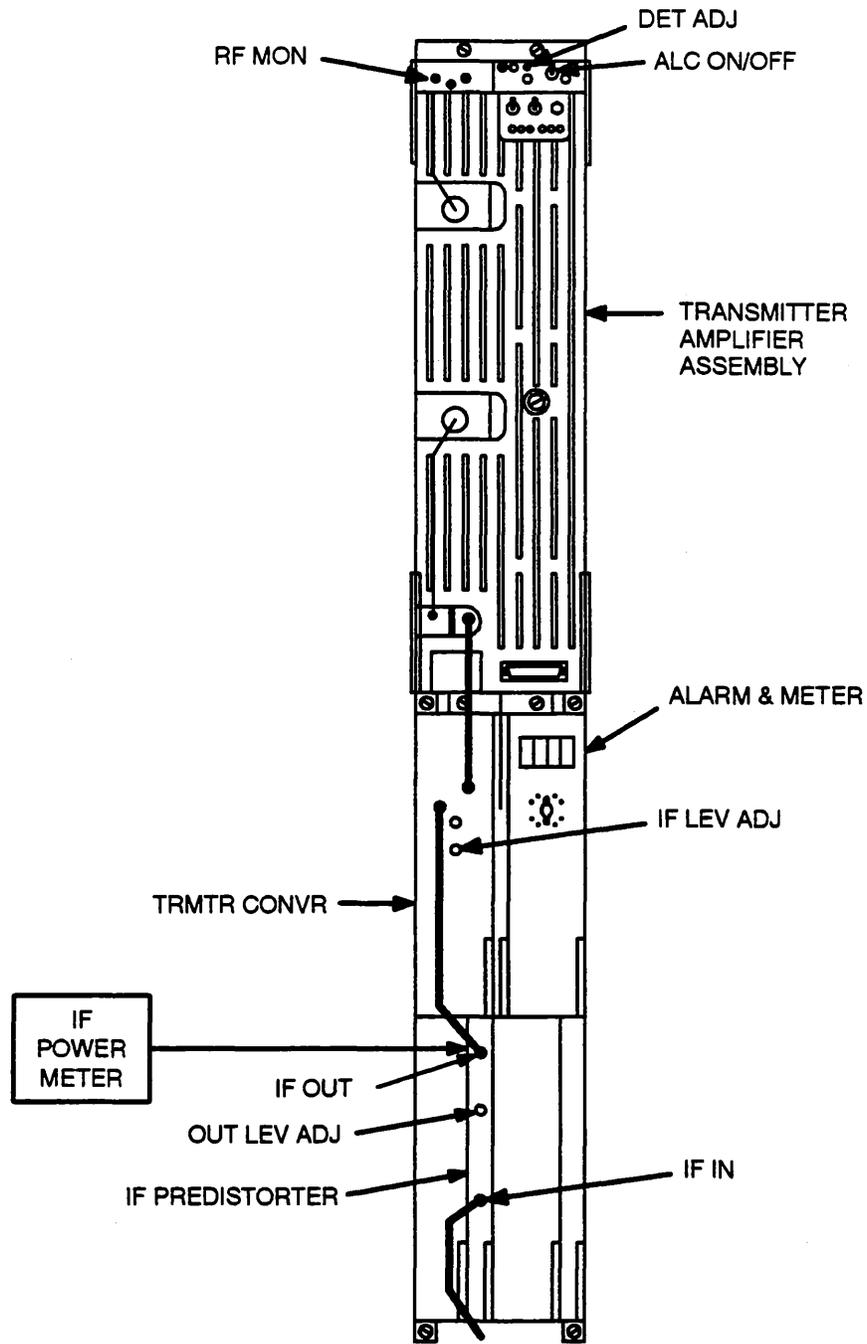

Figure 6- IF Predistorter Gain Check and Adjustment Test Connections
- Refer to Figure 6.
4. Condition the power meter to measure the expected power level (normally -8.2 dBm), and connect it to the IF OUT jack (Figure 6).